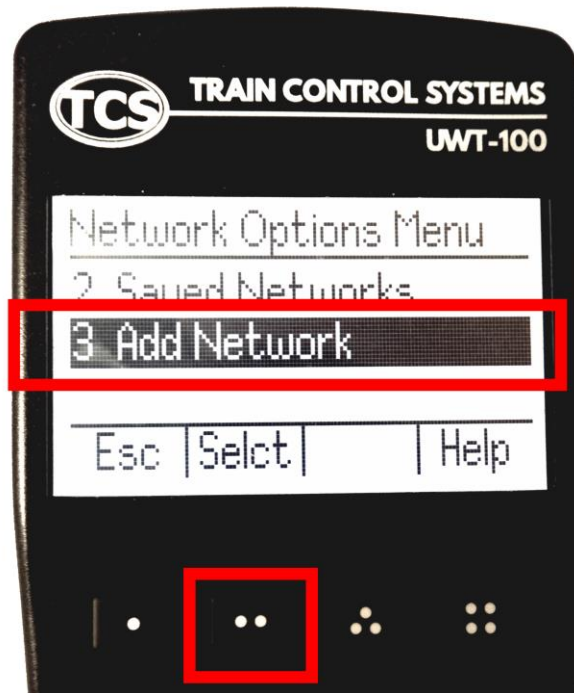

Figure 21 Select the Add Network option
(3) Select option 3, Add Network as Figure 21